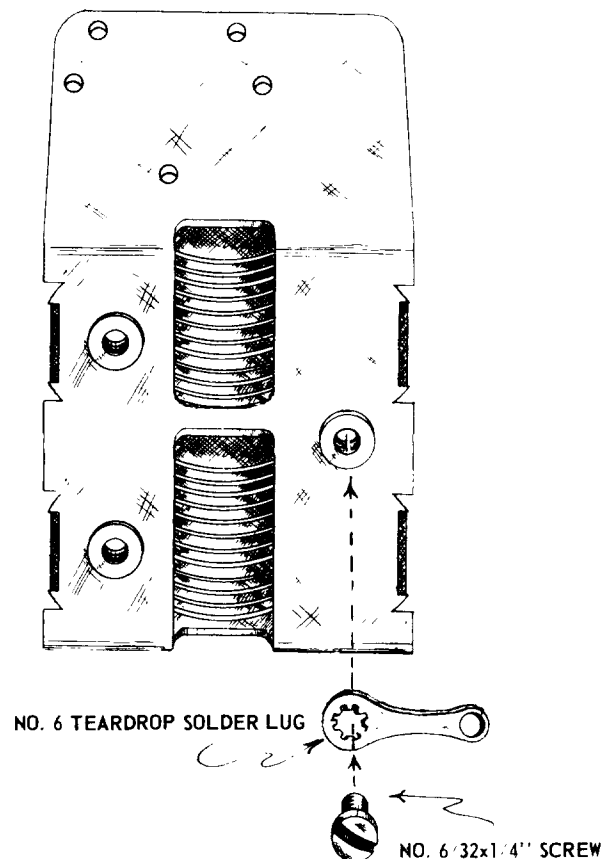

Figure 10. Solder Lug Mounting Detail, C-9.
- (b) Position the lug so it points to the left side (when viewed from the front) of the capacitor frame. Refer to Figure 10. Tighten securely.